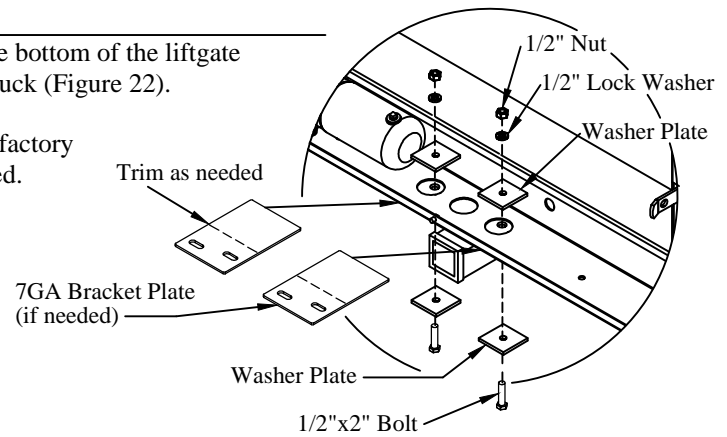

Figure 22: Lower bracket support (Class 5 hitch).
- 1. Assemble** the supplied hardware through the outer two holes in the bottom of the liftgate mainframe and the two holes in the factory hitch plate on the truck (Figure 22).